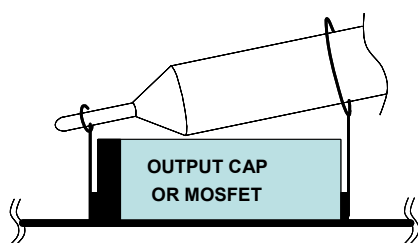

FIGURE 3. PROPER PROBE SET-UP TO MEASURE OUTPUT RIPPLE AND PHASE NODE RINGING
6. Use oscilloscope to observe output voltage ripple and phase node ringing. For accurate measurement, refer to Figure 3 for proper test set-up.